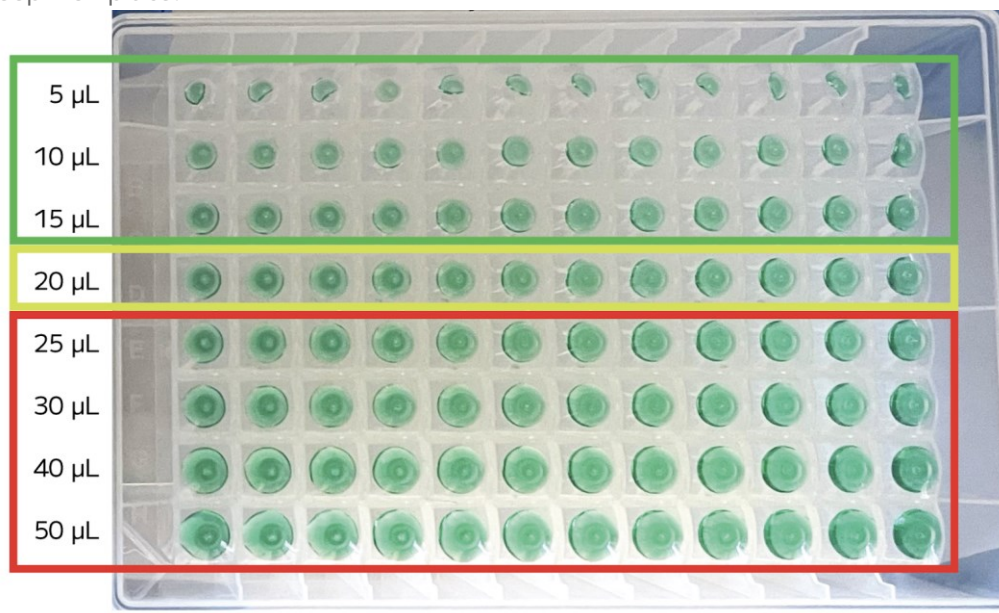

Figure 4: Bottom view of a deep well plate with different volumes of residual supernatant.
- Less than 20 μL of supernatant should be left in each well after Section 2, steps 10 and 30. Figure 4 shows different volumes of supernatant when viewed from the bottom of the deep well plate.